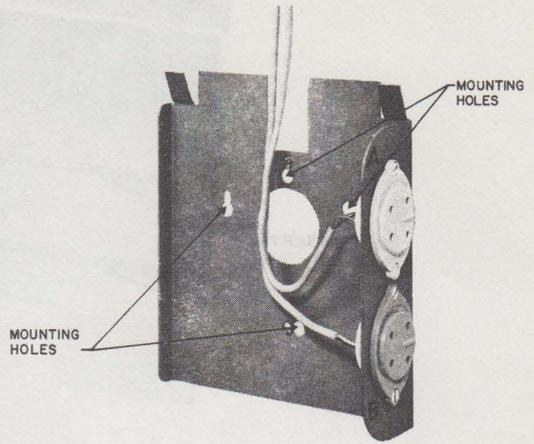

FIGURE 10. WALL BRACKET ASSEMBLY
- (1) Mount the wall bracket assembly (Figure 10) on the desired location. This assembly is mounted directly to a flat surface or a device box. Use appropriate fasteners per BSP 080-720-105.